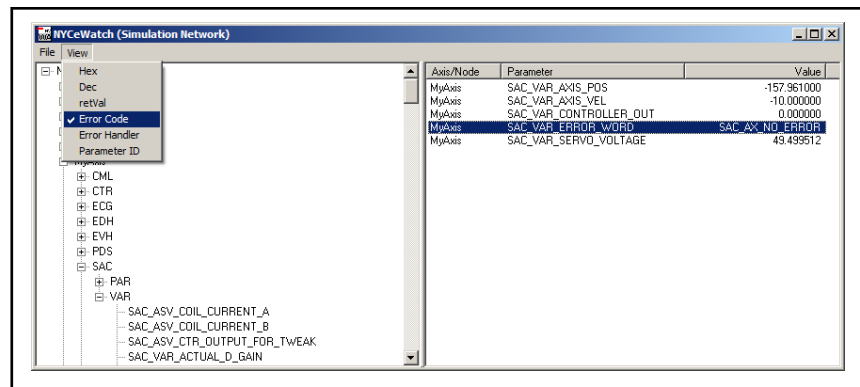

Fig. 9-2: Set the displayed data format
- In the View menu entry in the menu bar the format of the variable can be chosen. Select the parameter in the pane at the right hand side, and click "View" in the menu bar. The default is "Dec", but, for example, for the variable SAC_VAR_ERROR_WORD you can select the format "Error Code" to see the value of that variable in a human-readable format, see fig. 9-2 "Set the displayed data format" on page 228.